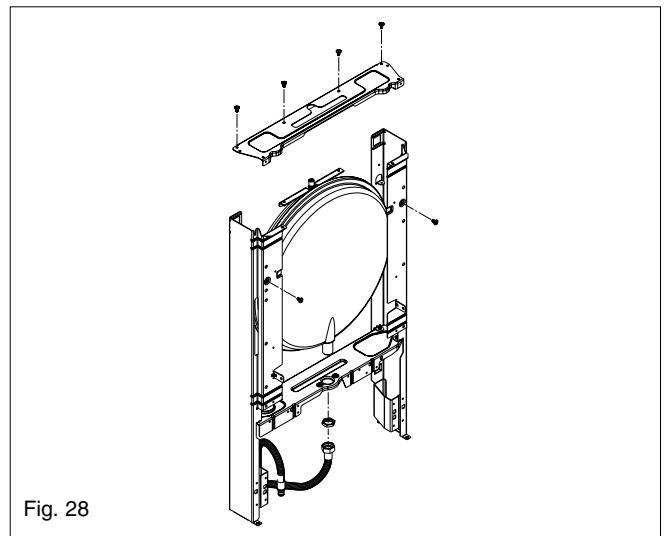

Fig. 28
6.15 EXPANSION VESSEL REMOVAL (fig. 28)
Carry out component removal procedure as described in 6.4. Disconnect the flexible expansion pipe from the vessel (fig. 28). Locate and remove the screws that secure the vessel (1). The expansion vessel can now be removed. Replace in the reverse order. Take extreme care when refitting the wiring to the air chamber. Ensure all seals are in good condition, taking care to ensure they are replaced correctly